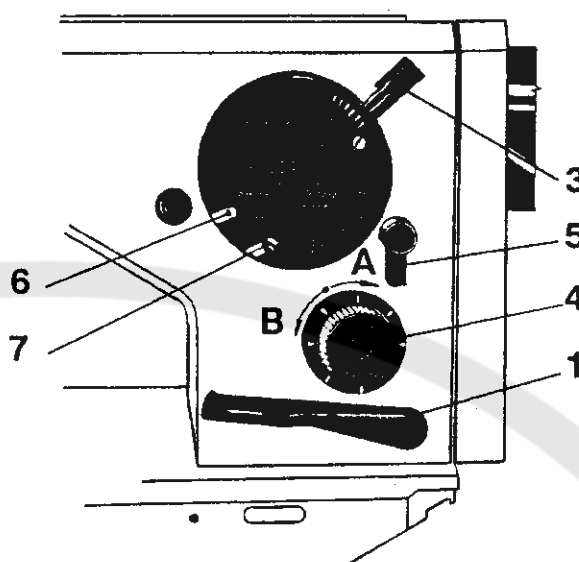

Figure 7
1. Stitch length adjustment (Fig. 7)
2. To adjust the zigzag stitch width (Fig. 7)
12. To adjust the length of feeding (Fig. 7)